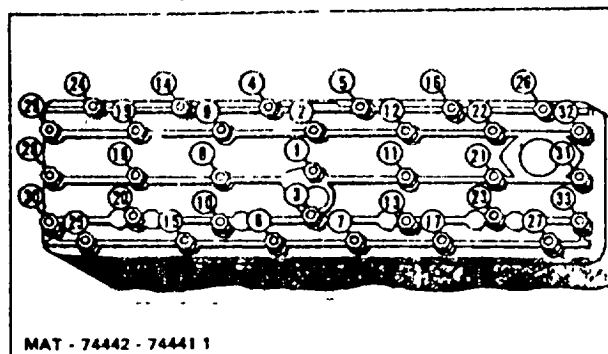

Figure 21. Cylinder Head Torquing Sequence
2. Refer LU Figure 21 for correct cylinder head capscrew torquing sequence.